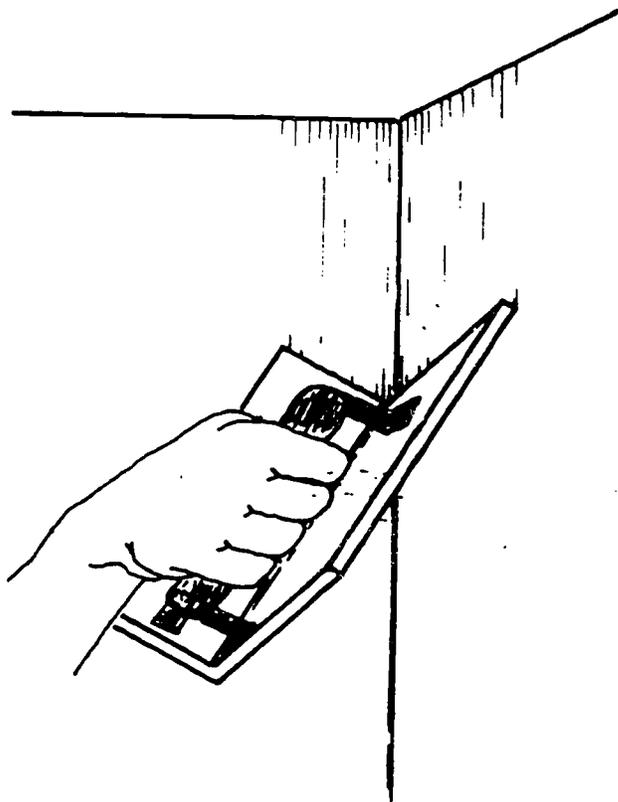

Figure 28. Floating the Corner
Step 3. After the doubling-up coat, float the angles. This step consists of filling-in and squaring-up the angles (corners). Use an aluminum, plaster, fiberglass, or wooden float to work putty coat into a square, straight angle. Figure 28 shows the float held at a slight angle with the wall to keep the float from "digging in".